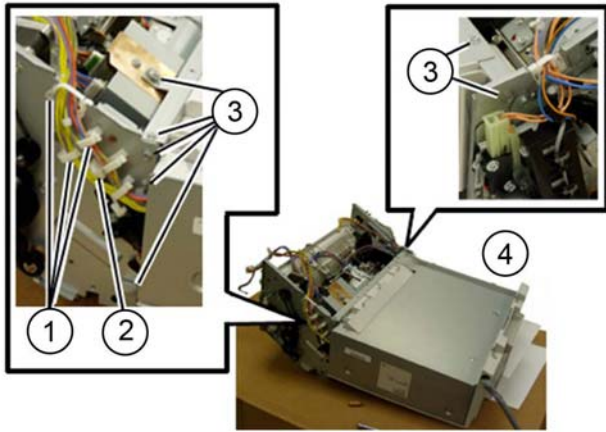

Figure 4 Stacker tray removal
10. Remove the stacker tray, Figure 4:
- a. Release the harness from the five clamps (1).
- b. Disconnect the connector (2).
- c. Remove seven screws (3).
- d. Remove the stacker tray (4).